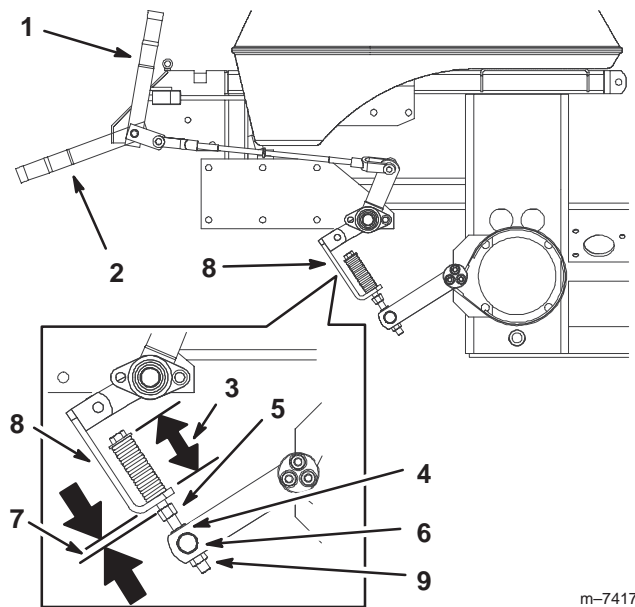

Figure 81
2. Measure the length of the spring. The measurement should be 2-3/4 inch (70 mm) between the washers (Fig. 81).
3. If an adjustment is necessary, loosen the jam nut below the spring and tighten the nut directly below the yoke (Fig. 81). Turn the nut until the correct measurement is obtained. Tighten the two nuts together and repeat on the opposite side of the unit.
6. Measure the distance between the spring bracket and the adjusting nut under spring bracket. The measurement should be 1/4-5/16 inch (5-8 mm) (Fig. 81).
7. If an adjustment is necessary, loosen the jam nut directly above the trunion roller. Turn the lock nut below the trunion roller until the correct measurement is obtained (Fig. 81).
8. Tighten the jam nut directly above the trunion roller (Fig. 81).